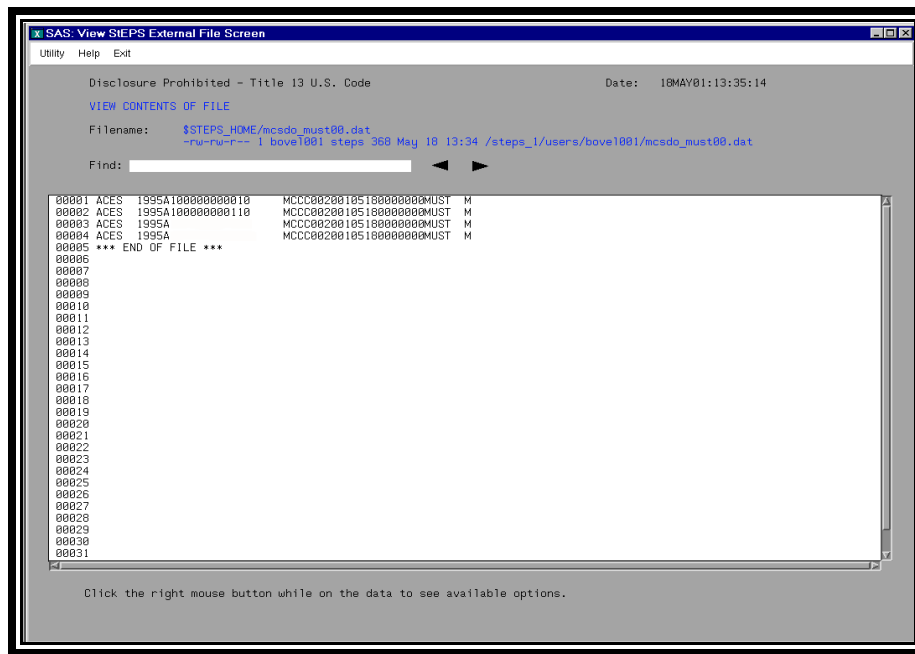

Figure 2.5.1g View SDO records screen
- S Select the ‘View SDO records’ button to view a list of the updates that were applied to the master or stat period control files. (See Figure 2.5.1g)